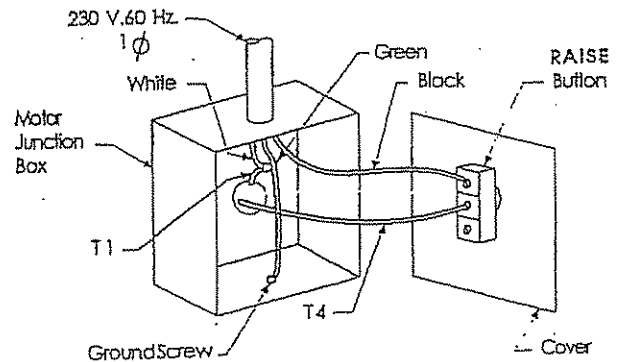

Fig. 19
10. Electrical: Have a certified electrician run 230 volt single phase 60 Hz. power supply to motor, Fig. 19. Size wire for 25 amp. circuit. See Motor Operating Data table on opposite page.